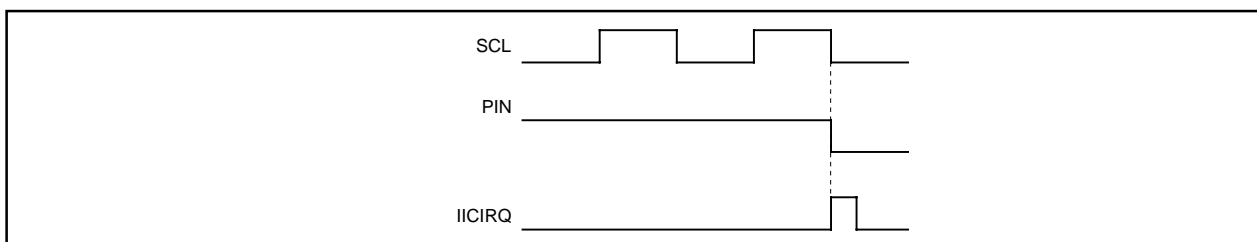

Fig. 2.11.41 Interrupt request signal generation timing
This bit generates an interrupt request signal. Each time 1-byte data is transmitted, the state of the PIN bit changes from "1" to "0." At the same time, an interrupt request signal is sent to the CPU. The PIN bit is set to "0" in synchronization with a falling edge of the last clock (including the ACK clock) of an internal clock and an interrupt request signal occurs in synchronization with a falling edge of the PIN bit. When detecting the STOP condition in slave, the multi-master I²C-BUS interface interrupt request bit (IR) is set to "1" (interrupt requested) regardless of falling of PIN bit. When the PIN bit is "0," the SCL is kept in the "0" state and clock generation is disabled. Figure 2.11.41 shows an interrupt request signal generating timing chart.